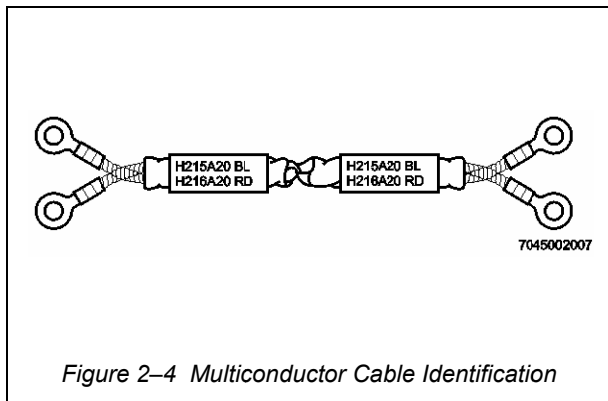

Figure 2-4 Multiconductor Cable Identification
33. Multi-conductor cables may be identified by marking directly onto the outer sheath using a laser marking machine or with pre-marked sleeves (refer Figure 2-4) installed as described in paragraph 44. Immediately following each wire identification number, indicate the colour of the individual conductor as detailed in Figure 2-1 using the following abbreviations: